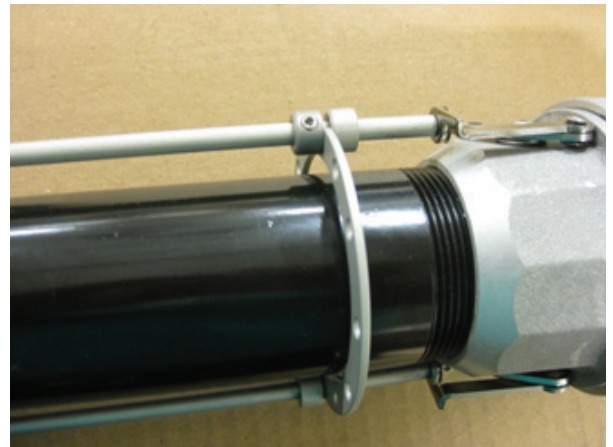

Fig. 1 Anodized Ring Assembly
3. Now you will need to remove the floats from the overfill prevention valve, this is done by removing the two snap rings from the bottom of the float rods and then loosening the two set screws in the collars. With the collars removed the floats can be moved down on the float rods. Now place the anodized ring between the float rods and place collars over the float rods and tighten down and replace the floats. (See Fig. 1.)